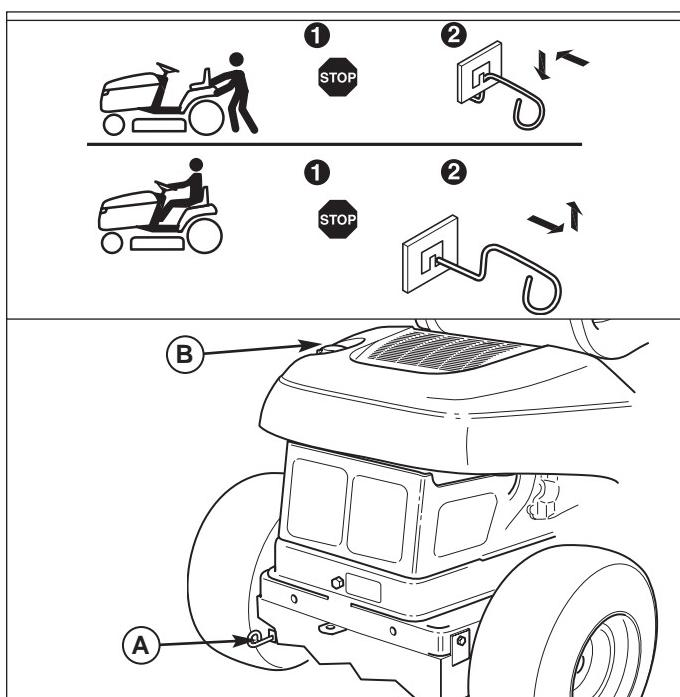

Figure 6. Transmission Release Lever
- Push the transmission release (A, Figure 6) in and push down to lock into released position.